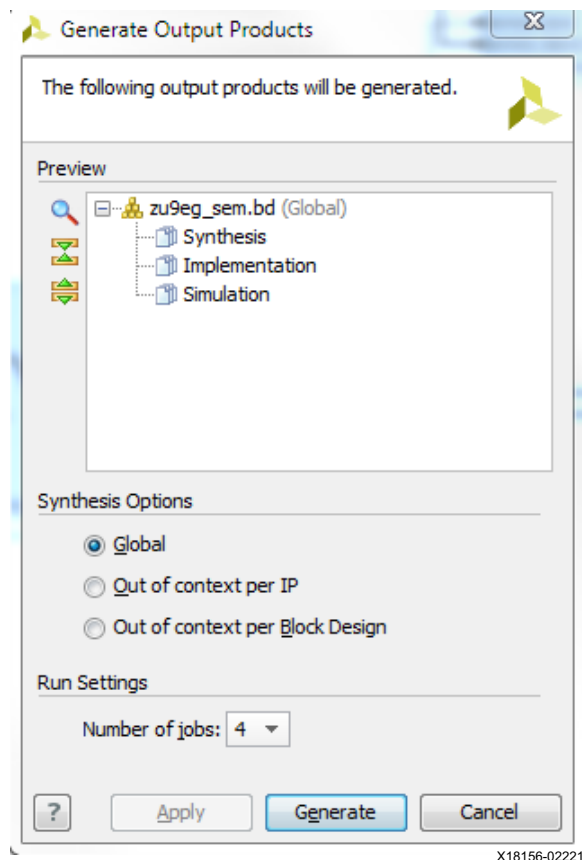

Figure 23: Design 2 - Generate Output Products
1. Select **Generate Block Design** in the Flow Navigator. See Figure 23.
- a. Select **Generate**. See Figure 23.